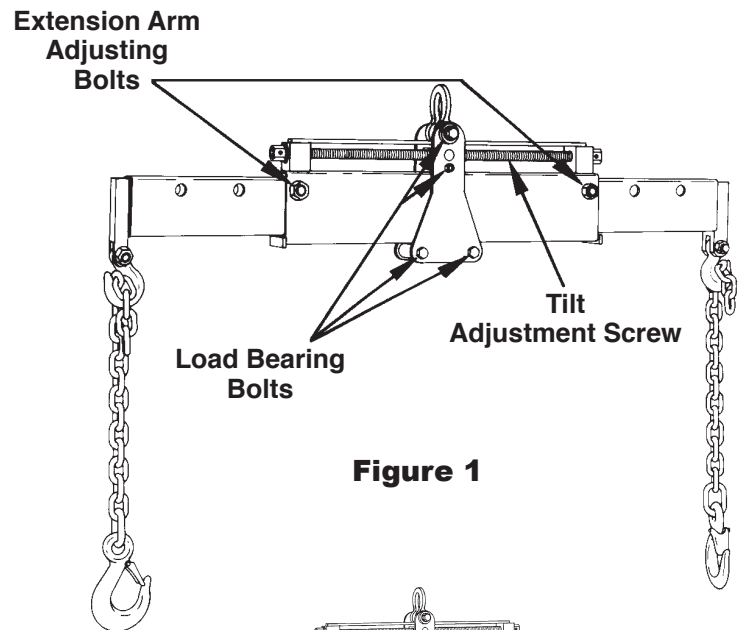

Figure 1
1. Regularly clean and lubricate the tilt adjustment screw. See Figure 1.
2. Keep the four load bearing bolts fastened securely. See Figure 1.
3. Verify the bolts holding the extension arms are securely fastened. See Figure 1.